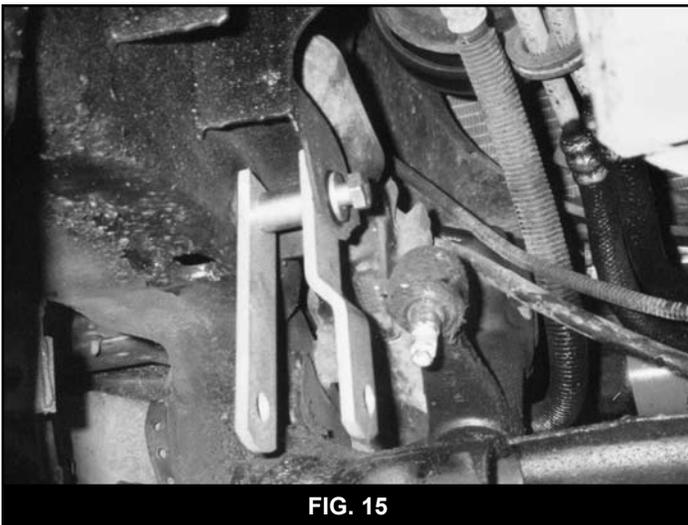

FIG. 15
34. Install the driver's side front differential mount using the straight bracket #01139 (outer) and the offset bracket #01140 (inner). Space brackets apart using the supplied 1-1/4" long sleeve. Loosely install the assembly using the 1/2" x 3" bolt, 7/16" USS washers and nut from bolt pack #510. After installation, the offset hole in the offset drop bracket should be toward the front of the vehicle (Fig. 15).